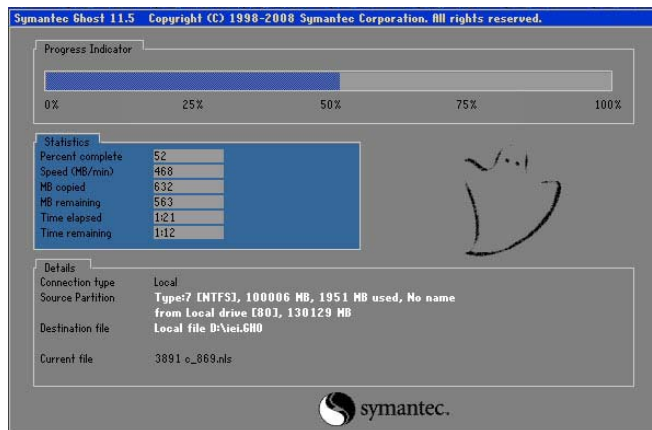

Figure A-19: Image Creation Process
Step 10: The Symantec Ghost starts to create the factory default image (Figure A-19).